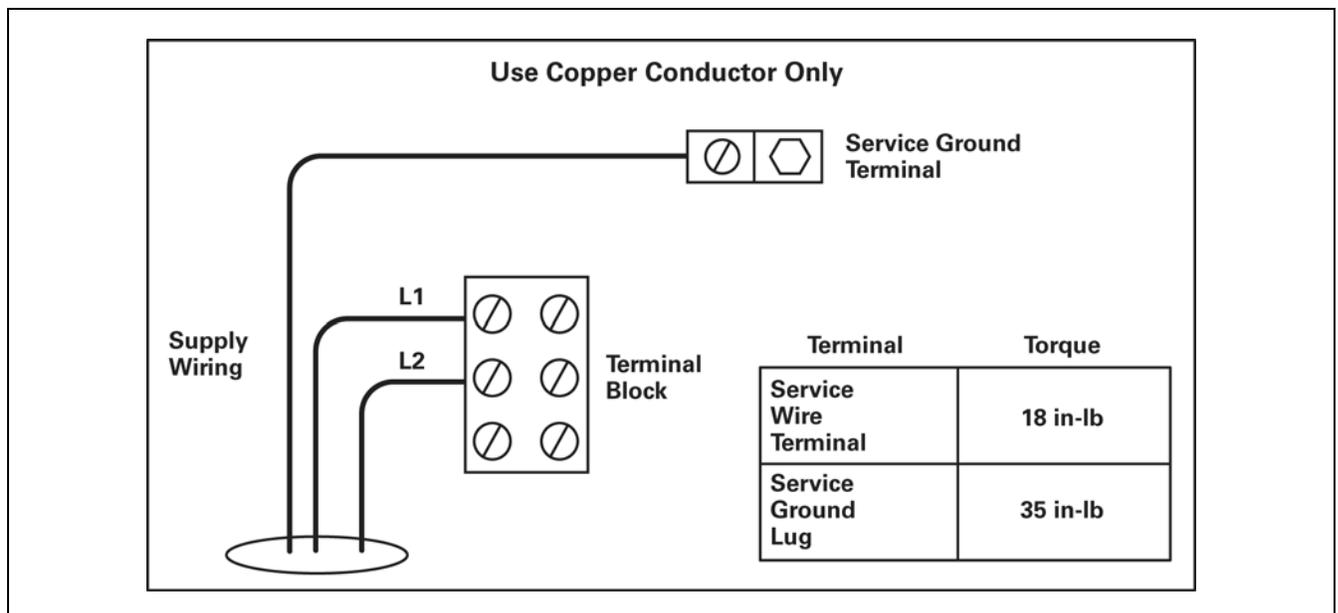

Figure 11 — Service Wiring Terminals
- Connect the AC supply conductors (L1 and L2) to the upper two terminals in the terminal block (Figure 11) at the lower left of the charger.
6. Connect the ground wire to the service ground terminal (Figure 11) at the lower right of the charger.